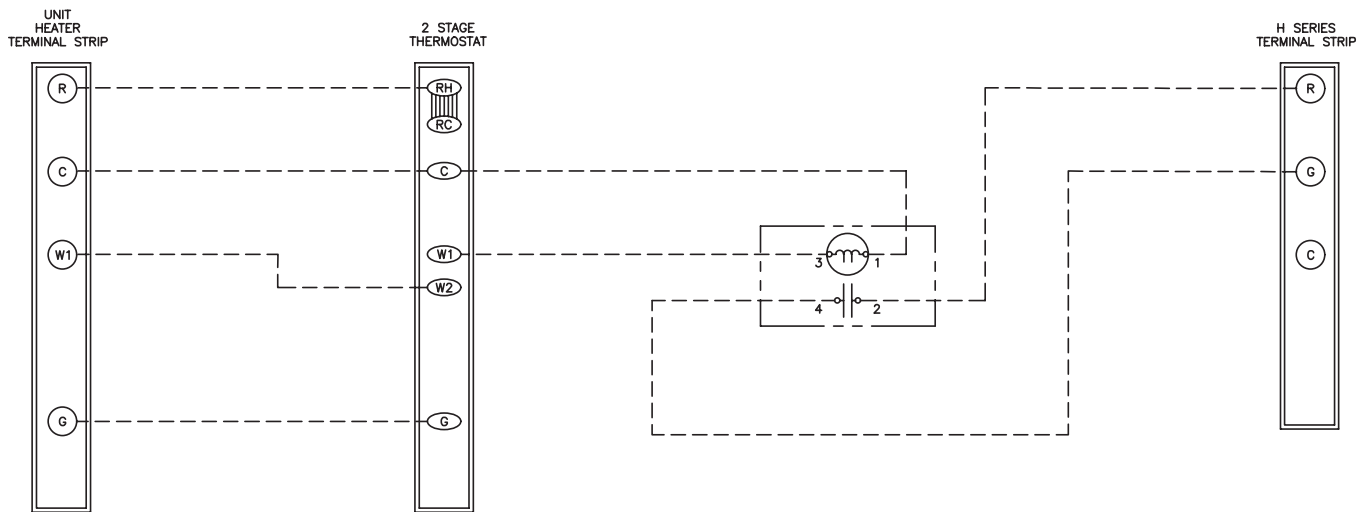

Figure 9. Heater and Destratification Fan Wiring Diagram
- If the installation features a heater and an H series Huracon™ destratification fan controlled by a single two-stage thermostat, ensure that the wiring is in accordance with the wiring diagram shown in Figure 9.